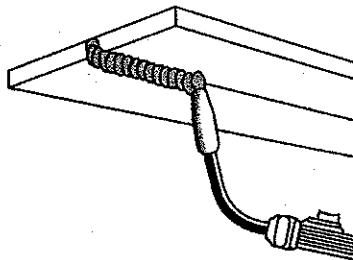

Figure 17. Overhead Position
4. The OVERHEAD POSITION (Figure 17) is the most difficult welding position because gravity is pulling at the weld puddle trying to make it drip off the work piece. Angle A (see HOLDING THE GUN - p.16) should be maintained at 60 degrees, the same as in the flat position. Maintaining this angle will reduce the chances of molten metal falling into the nozzle should it drip from the weld puddle. Angle B should be held at zero degrees so that the wire is aiming directly into the weld joint. If you experience excessive dripping of the weld puddle, select a lower heat setting. Also, the weave bead tends to work better than the stringer bead when welding overhead.